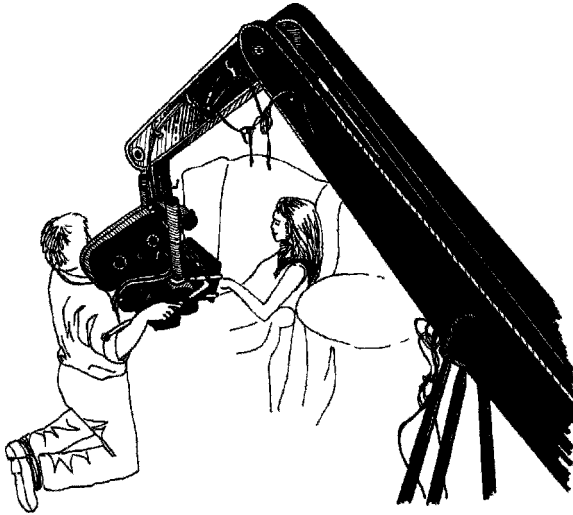

Figure 10.18 Z-Jib Arm, Model 8-130 (Ken Hill Mfg.).
- **ZG Arm (Model 8-130, Ken Hill MFG)** (Figure 10.18)